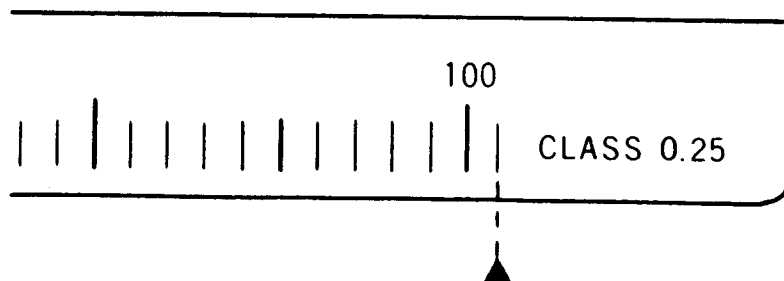

Figure 4-4. SPAN Adjust
4.1.4 SPAN Adjust (Right Margin) See Figure 4-4